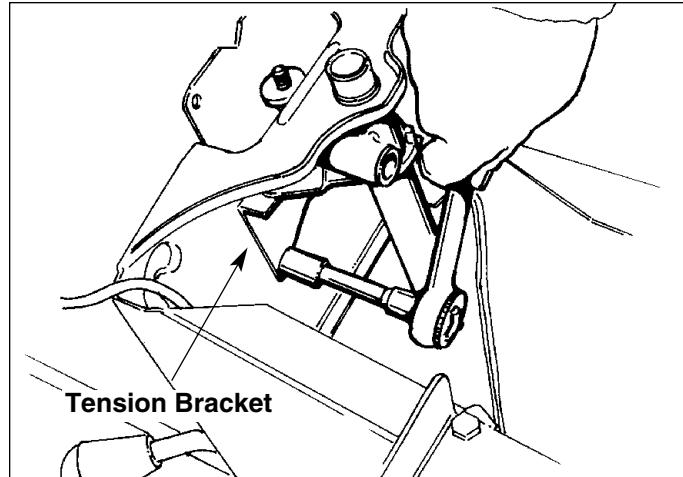

Figure B-14. Disassemble Tension Bracket From Lower Dash
4. Using a 7/16" socket and a short extension bar, remove the two sets of hex nuts, lockwashers, flat washers, and carriage bolts that attach the tension bracket to the inside wall of the lower dash (Figure B-14).